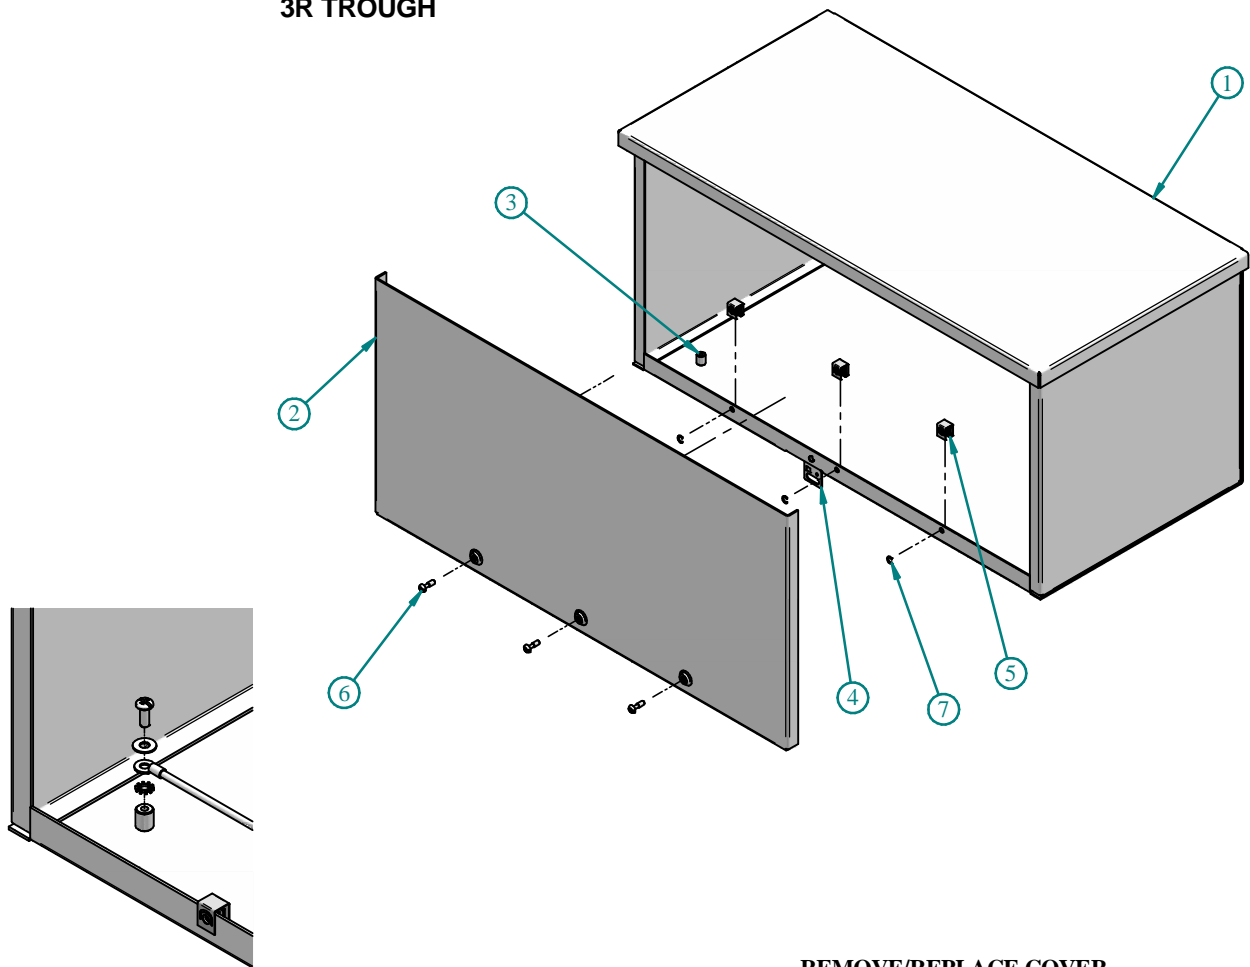

FIG. 1
- Ground wire must be installed, refer to FIG. 1 for wire installation on the body and cover.